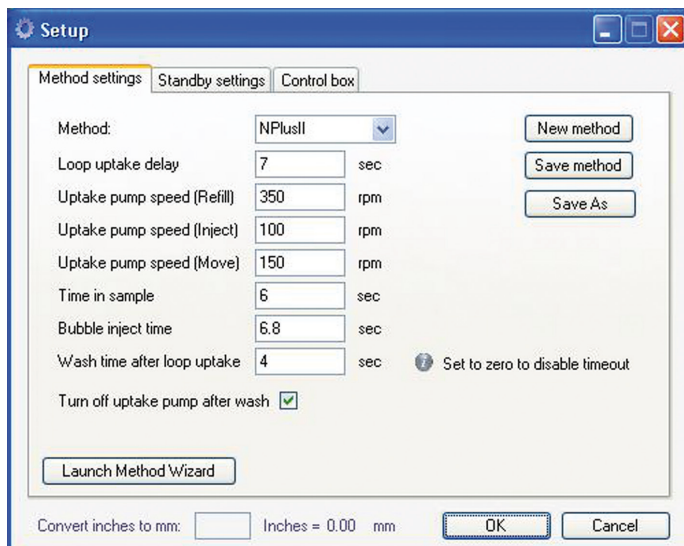

Figure 2: Niagara Plus-CM method settings page.
- An option to add a Wash Time for the autosampler probe and uptake tubing. Figure 2 shows the Method Settings, including “wash time after loop uptake”.